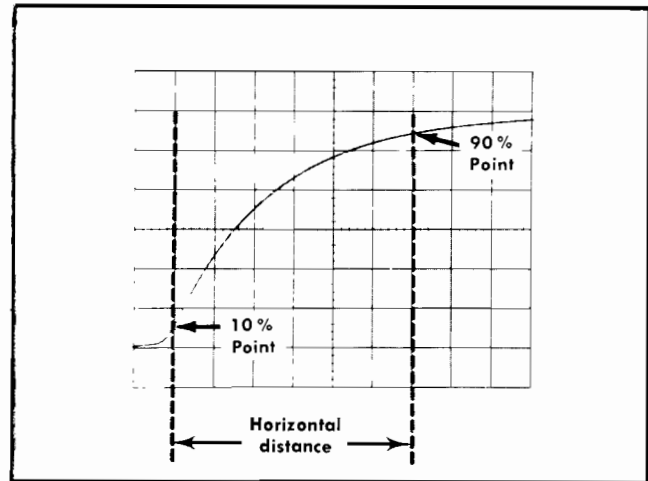

Fig. 2-5. Measuring risetime.
4. Set the time-base triggering controls to obtain a stable display. Set the Seconds/Div switch to the fastest sweep rate that will display less than eight divisions between the 10% and 90% points on the waveform (see Fig. 2-5).